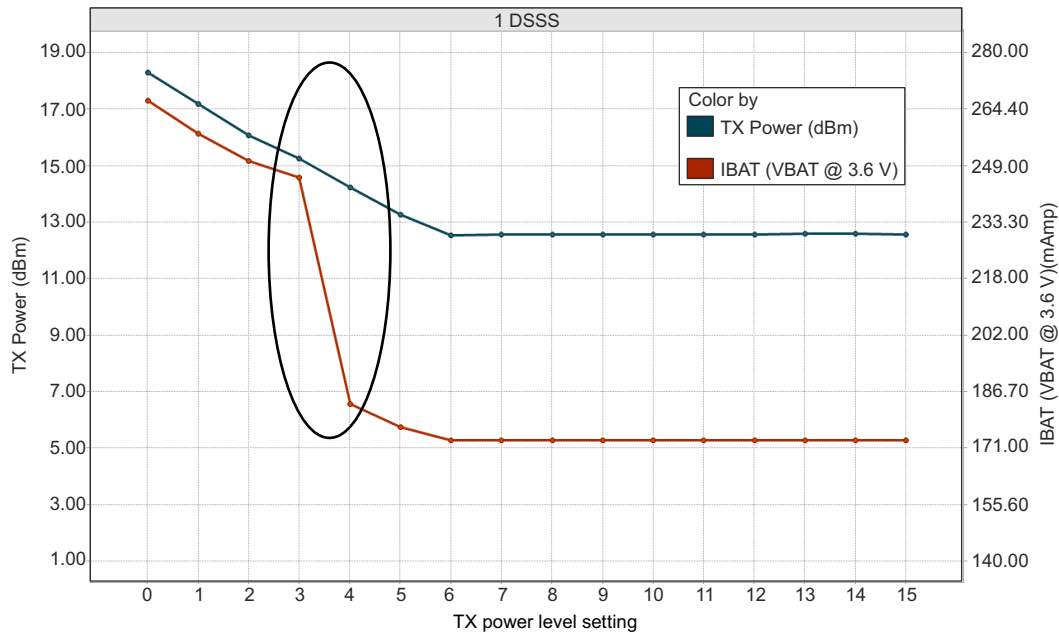
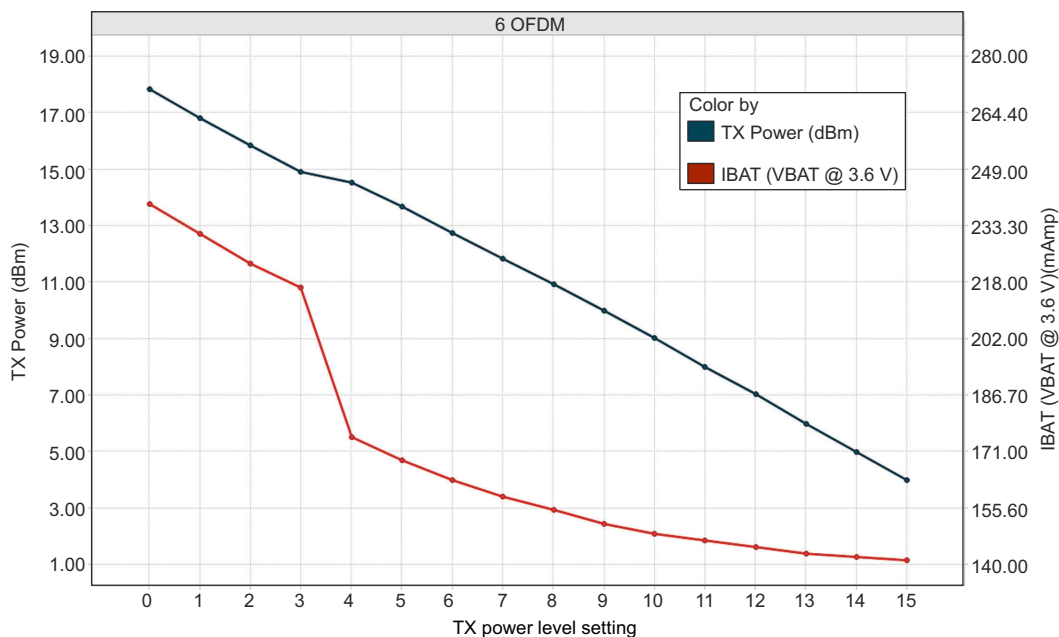
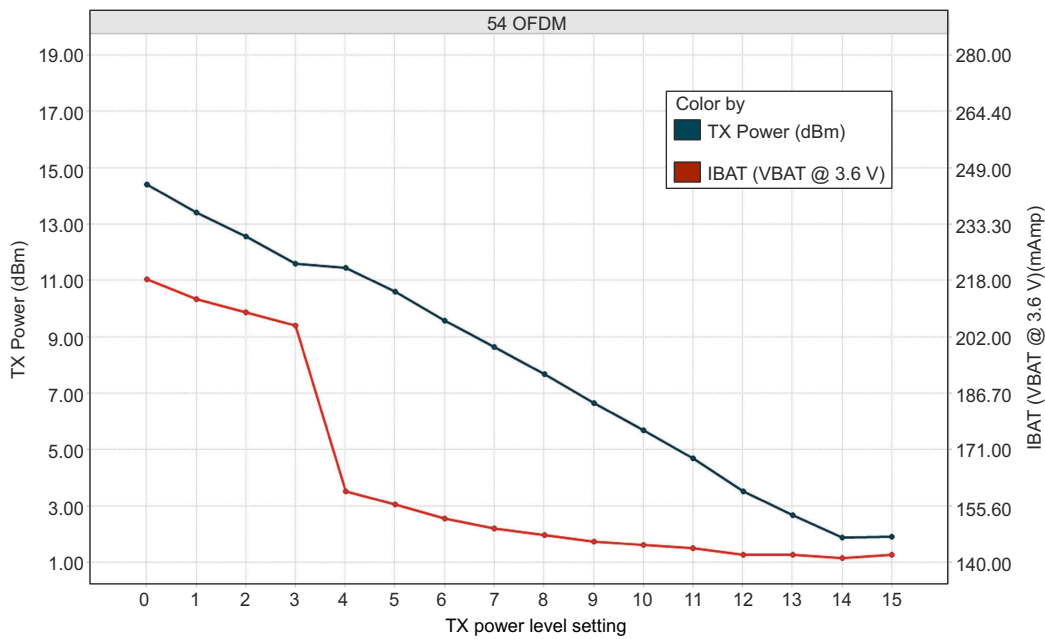

图 8-1. TX Power and IBAT vs TX Power Level Settings (1 DSSS)
图 8-2. TX Power and IBAT vs TX Power Level Settings (6 OFDM)
图 8-3. TX Power and IBAT vs TX Power Level Settings (54 OFDM)
- (1) TX power level = 0 implies maximum power (see 图 8-1, 图 8-2, and 图 8-3). TX power level = 4 implies output power backed off approximately 4 dB.
- (2) CC3220MODx and CC3220MODAx are constant, power-source systems. The active current numbers scale based on the V_{BAT} voltage supplied.
- (3) DTIM = 1
- (4) The LPDS number of reported is with retention of 256KB of MCU SRAM. The CC3220MODx and CC3220MODAx modules can be configured to retain 0KB, 64KB, 128KB, 192KB, or 256KB of SRAM in LPDS. Each 64-KB block of MCU retained SRAM increases LPDS current by 4 μA.
- (5) The complete calibration can take up to 17 mJ of energy from the battery over a time of 24 ms. In default mode, calibration is performed sparingly, and typically occurs when re-enabling the NWP and when the temperature has changed by more than 20°C. There are two additional calibration modes that may be used to reduced or completely eliminate the calibration event. For further details, see CC3x20 SimpleLink™ Wi-Fi® and Internet of Things Network Processor Programmer's Guide.
- (6) The RX current is measured with a 1-Mbps throughput rate.
- (3) The RX current is measured with a 1-Mbps throughput rate.
- (4) DTIM = 1
- (5) The LPDS number of reported is with retention of 256KB of MCU SRAM. The CC3220MODx and CC3220MODAx modules can be configured to retain 0KB, 64KB, 128KB, 192KB, or 256KB of SRAM in LPDS. Each 64-KB block of MCU retained SRAM increases LPDS current by 4 µA.
图 8-1, 图 8-2, and 图 8-3 show TX Power and IBAT versus TX power level settings for the CC3220MODS module at modulations of 1 DSSS, 6 OFDM, and 54 OFDM, respectively. For the CC3220MODSF module, the IBAT current has an increase of approximately 10 mA to 15 mA depending on the transmitted rate. The TX power level will remain the same.
In 图 8-1, the area enclosed in the circle represents a significant reduction in current during transition from TX power level 3 to level 4. In the case of lower range requirements (14-dBm output power), TI recommends using TX power level 4 to reduce the current.